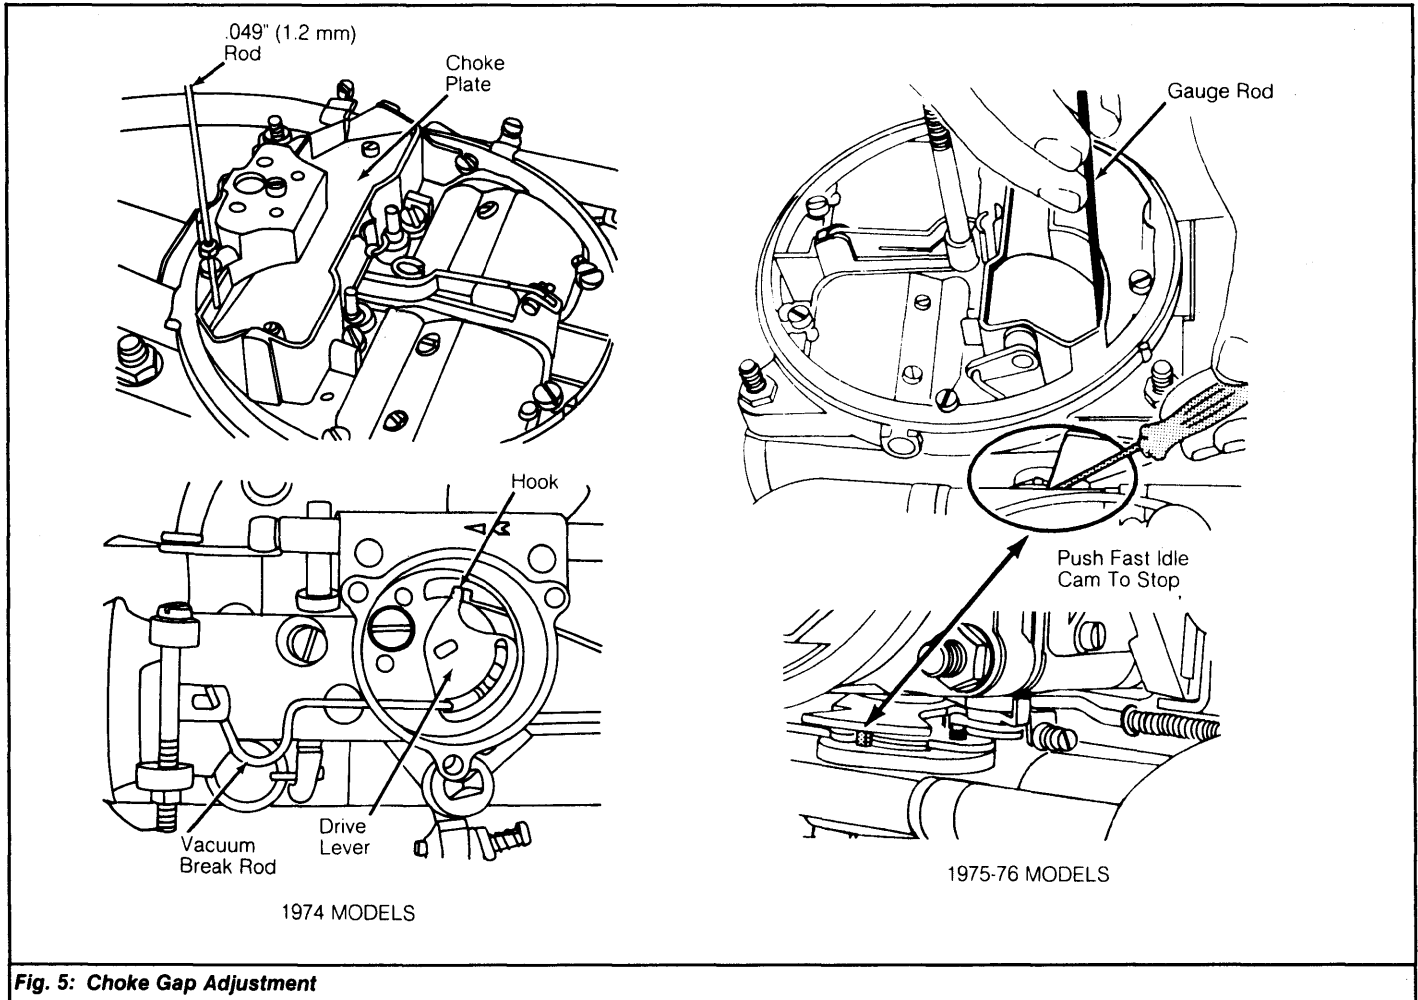

Fig. 5: Choke Gap Adjustment
3) Use a hook inserted through slot of choke housing, to push driver lever of in choke housing against stop. See Fig. 5. Vacuum break connecting rod will rest against stop in slot of drive lever.
1975-76 Models - 1) With engine stopped, actuate throttle to half throttle position. While holding throttle in this position, use screwdriver to actuate fast idle cam driver to its stop. See Fig. 5.